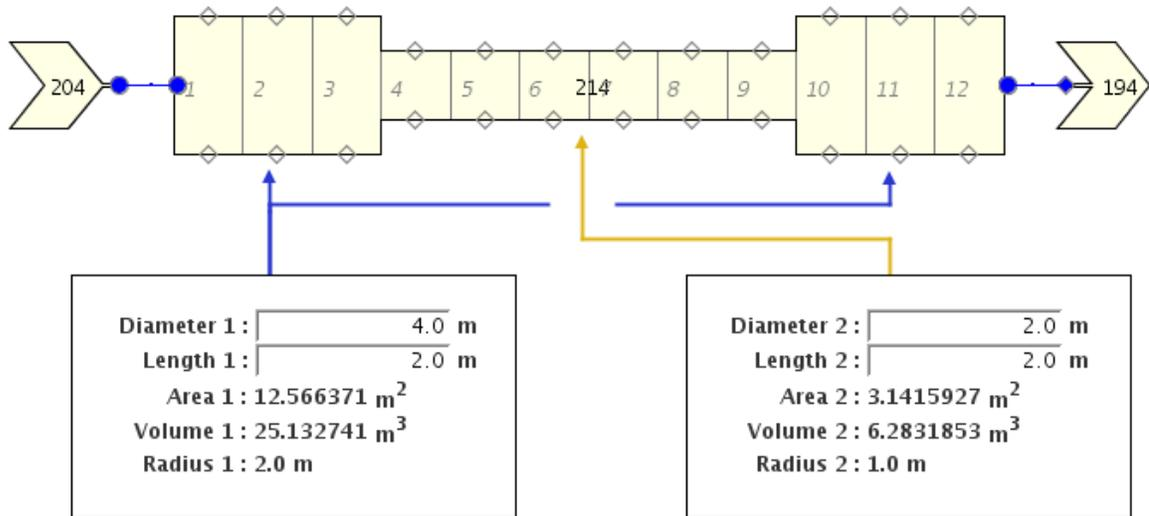

Figure 2.46. User Defined Numerics Example
Numerics Navigator node, etc.. These values are represented in a view as a **Drawn Numeric**. Drawn Numerics that correspond to integers and reals appear as a text label and optional text field (depending on the **Editable** option, described below) that displays the name of the variable, current value, and units if applicable (e.g. "Area 1" in Figure 2.46, "User Defined Numerics Example"). Booleans appear as check-boxes with a text label that displays the name of the numeric.
- **Editable** - This check-box item enables editing an input variable by entering a new value into the Drawn Numeric (e.g. "Diameter 1" in Figure 2.46, "User Defined Numerics Example" above). Entering a value into a Drawn Numeric and pressing **Enter** will change the value in the same way as editing the numeric properties directly.